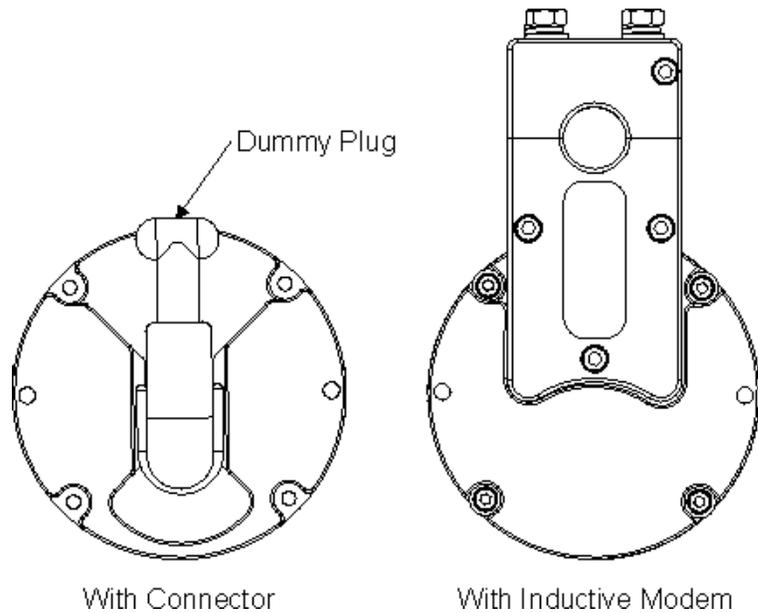

Figure 3. DVS End-Cap Configurations
- The end cap can be configured with either the inductive modem (IMM) or with an underwater connector, but not both (see Figure 3).